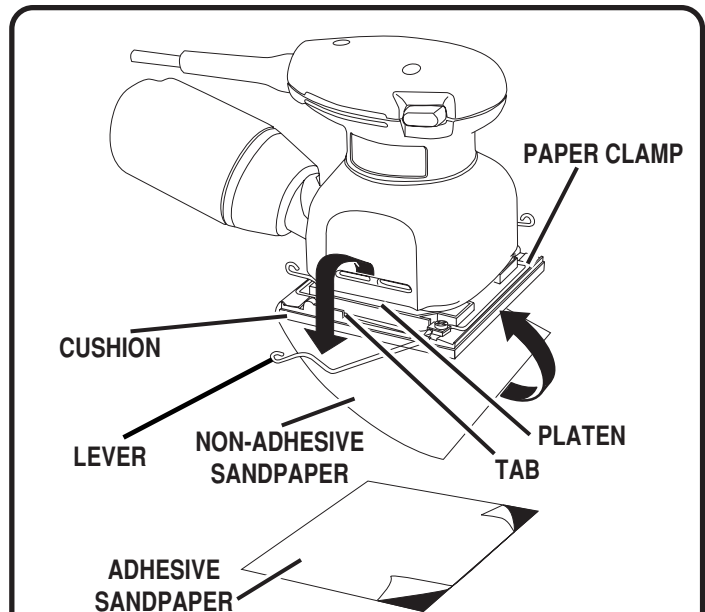

Fig. 2
See Figure 2.
5. Position sandpaper, making sure front edge of sandpaper is aligned with front edge of the cushion, then carefully press sticky side of sandpaper on cushion. **Note:** Sandpaper must be aligned with the front edge of the cushion for proper functioning of the flush sanding feature. See Figure 2.